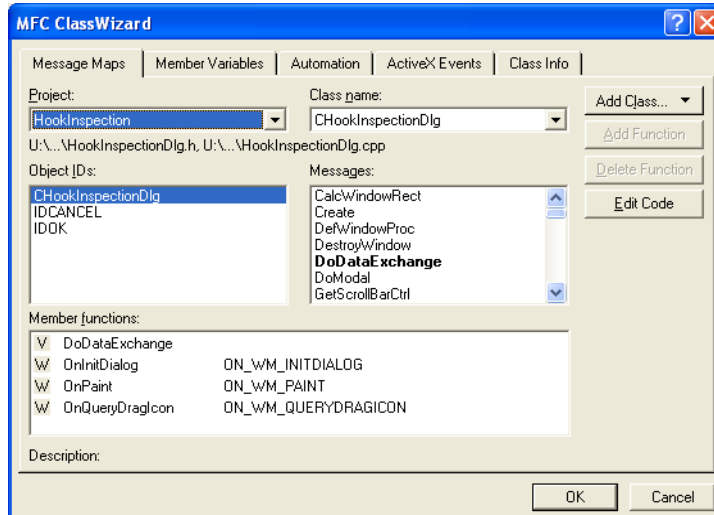

Figure 50 MFC ClassWizard Member Variables Editor
2. Click on the **Member Variables** tab and select **CHookInspectionDlg** in the **Class Name** combo box. You will see something like the dialog in Figure 50.